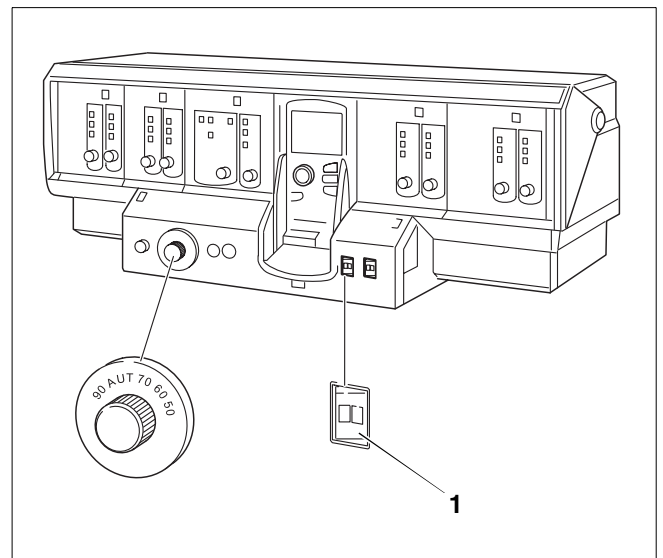

Fig. 64 Logamatic 4311 shown as an example
- Move the on/off switch (Fig. 64, ref. 1) on the control panel to the "0" position.